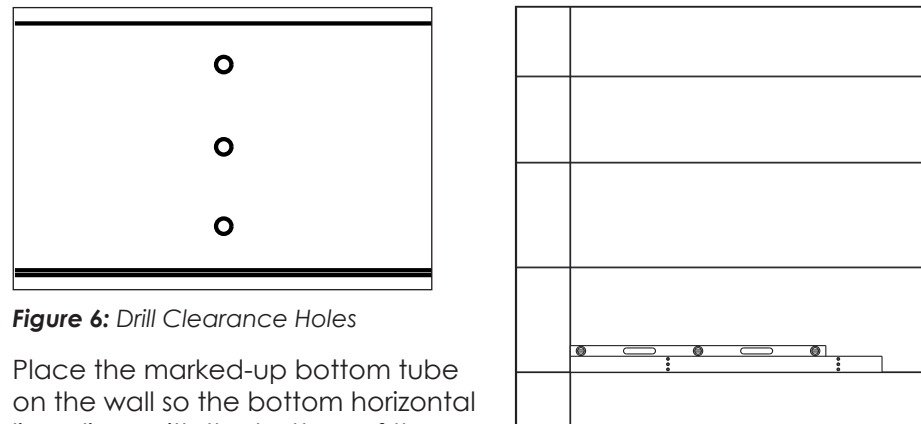

Figure 6: Drill Clearance Holes
- Drill three 0.266" (~17/64") clearance holes through the front and rear walls of the tube at each marked stud location. Refer to **Figure 6**.